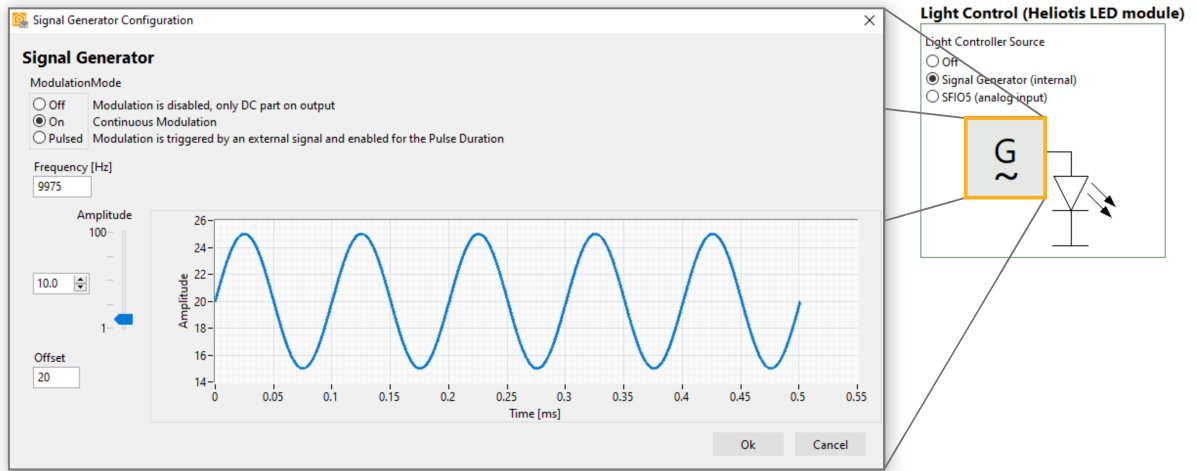

Fig. 3.4: Signal Generator Configuration
The signal generator driving the test illumination can be configured in a separate window, which opens when you click on its symbol in the block diagram, see Fig. 3.4. Replicate the settings in Table 3.1 / Fig. 3.4 manually, where they deviate from the default.
- **Signal Generator:** The heliDriver™ D3 comprises an signal generator, which can be configured in a separate window, see Fig. 3.4. It produces a sinusoidal modulation signal whose characteristics like **Frequency**, **Amplitude**, and **Offset** you can control.